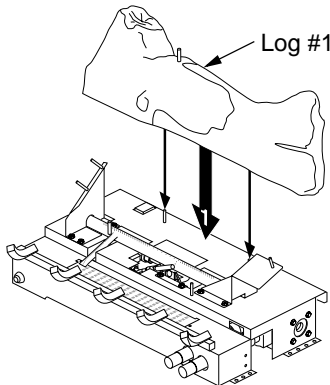

Figure 24 - Installing Rear Log (#1)
- Align two pegs near rear of base behind support brackets with two holes in bottom of rear log (#1). Place logs on pegs (see Figure 24, page 15).